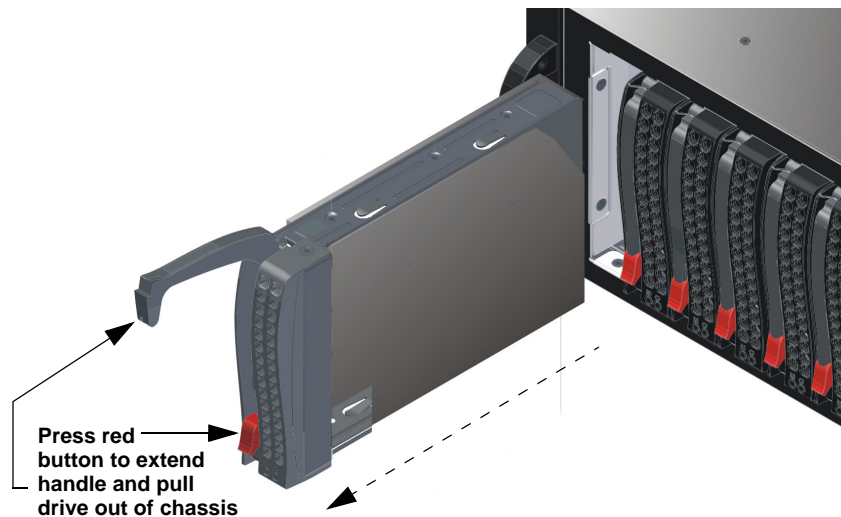

Figure 4-3 Press Release Button to Extend Handle and Remove Drive
3. Press the failed drive's red release button to extend the drive tray handle, then use the handle to pull the drive tray out of the DSS200 chassis, as shown in Figure 4-3.